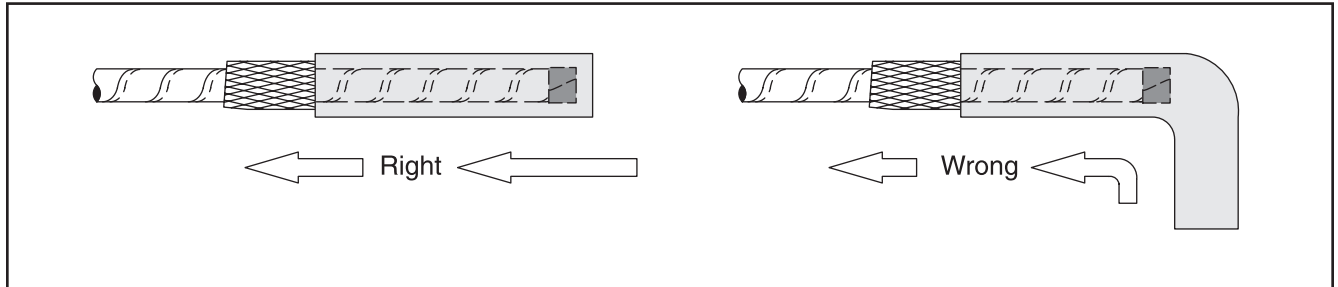

Figure 7
4.5 Guide one re-jacketing sleeve assembly over each cable phase leg (Figure 7).